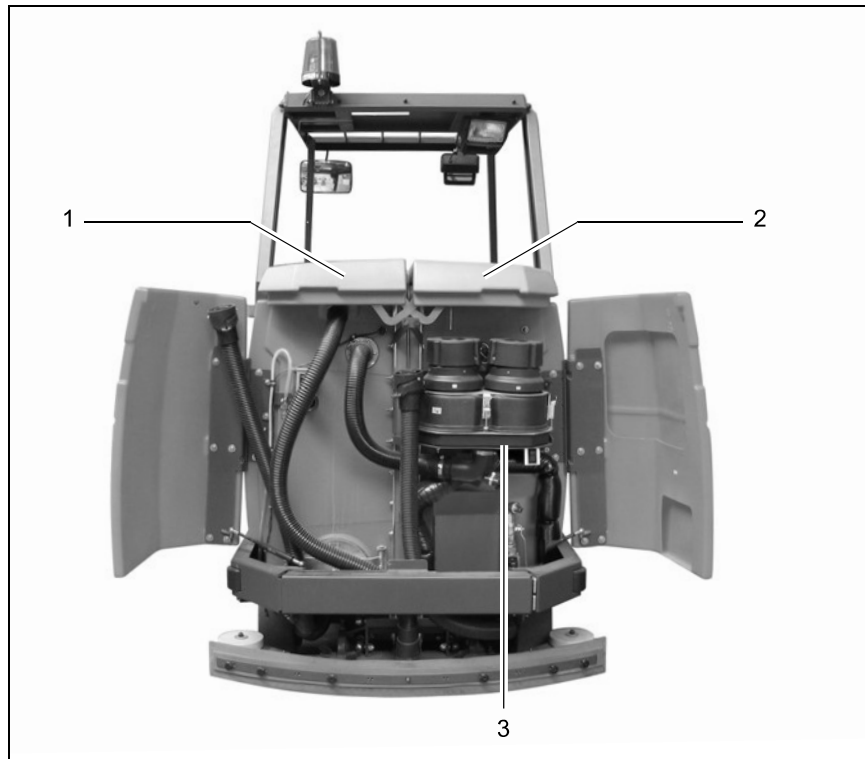

Fig. 14
3.1.3 Suction turbines (suction) (Fig. 14/3)
3.1.5 Fresh water tank (Fig. 14/2)
3.1.6 Recovery tank (Fig. 14/1)